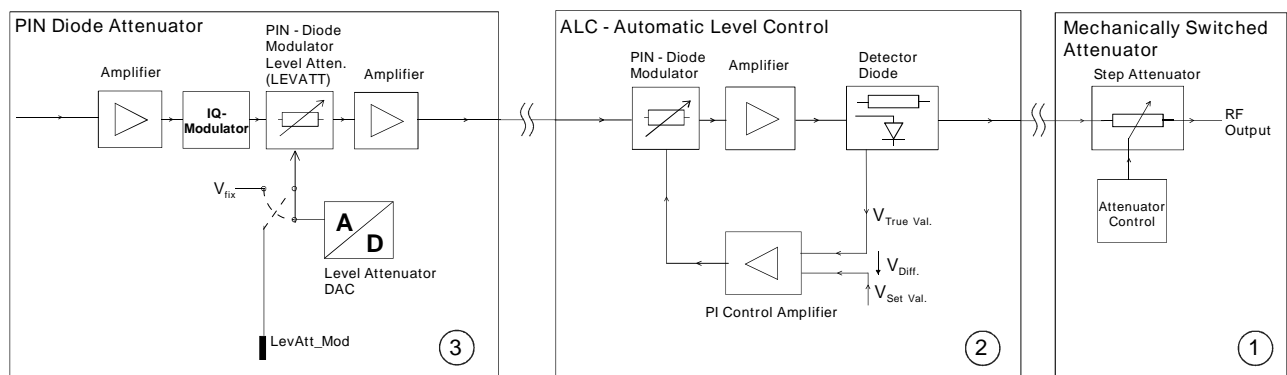

Fig. 1-1 The three modules to perform level settings in the SMIQ.
- ① The mechanically switched attenuator is connected between the RF-output module and the instrument output. The mechanical concept uses six in series cascaded, fixed attenuator pads. Some characteristics of this attenuator type are:
- ② The automatic level control (ALC) is located prior to the mechanically switched attenuator ① in the signal path of the SMIQ. Its characteristics are:
3. Amplitude modulation (AM), by varying the set value ($V_{\text{Set Val.}}$, Fig. 1-1).
- ③ The PIN-diode attenuator is located after the IQ Modulator and has the following characteristics:
The attenuation of the mechanically switched attenuator (see Fig. 1-1, circuit block ①) is automatically selected in accordance with a user's set RF-level. Switching of the attenuator occurs in 5 dB steps. The intermediate steps of attenuation are set by the ALC loop in the SMIQ (see Fig. 1-1, circuit block ②). The ALC loop operates within this mode in a range between 0 dB and 4.9 dB.
The ATTENUATOR MODE ELECTRONIC² uses the level attenuation circuit located at the output of the IQ Modulator (see Fig. 1-1, circuit block ③). The signal is applied to two pin diode attenuators, which are separated by an amplifier. This allows a fast level attenuation transient time of <15 µs and an attenuation of up to 70 dB. For level settings requiring an attenuation of more than 70 dB the automatic level control circuitry is automatically used in addition, so that a total dynamic range of 90 dB electronic level setting is achieved.